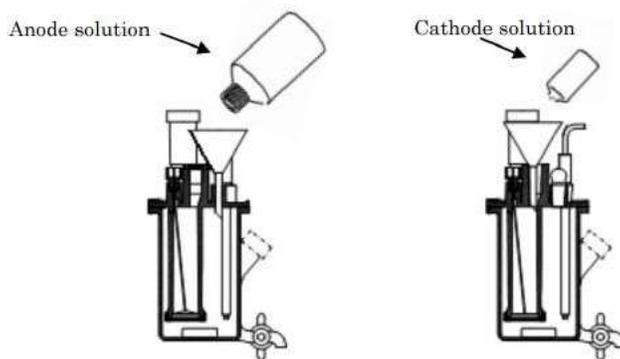
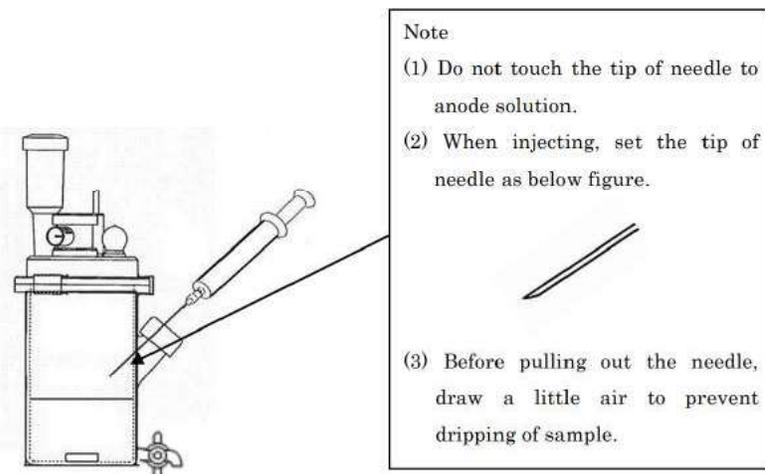
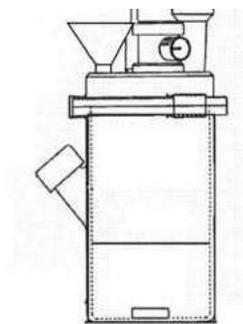

Fig.3.1. Preparation of the reagents. (Standard Cell)
Fig.3.2. Injection of liquid sample.
Fig.3.3. Addition of solid sample.
- (1) Add 10 g of benzoic acid and 100 mL of anode solution in anode compartment of titration cell as shown in Fig.3.1. Add one ampoule of cathode solution into the cathode compartment. When fritless cell is used, cathode solution is not necessary. Stir the anode solution to dissolve benzoic acid.
- (2) Start blanking to attain stable background.
- (3) Wash the syringe with sample.
- (4) Draw the sample into syringe and then weigh the syringe.
- (5) Inject sample from rubber septum of electrolytic cell as shown in Fig.3.2.
- (1) Add 10 g of benzoic acid and 100 mL of anode solution in anode compartment of titration cell as shown in Fig.3.1. Add one ampoule of cathode solution into the cathode compartment. Stir the anode solution to dissolve benzoic acid.
- (3) Put a sample container, powder funnel and spoon on the balance. Record its read ( $S_1$  [g]).
- (4) Open the glass stopper of titration cell lid to introduce the sample with powder funnel as shown in Fig.3.3.
- (5) Start titration. Measurement parameter is shown in Table 4.1.
- (6) Weigh the sample container, powder funnel and spoon again and record its read ( $S_2$  [g]). The difference of ( $S_1 - S_2$  [g]) is set as sample size.
- (7) Blank measurement is also performed with same procedure except for sample addition.